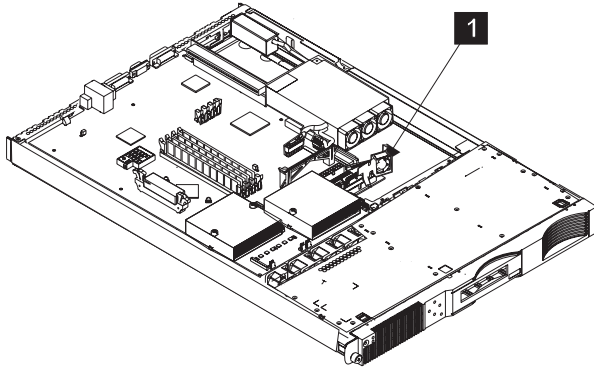

Figure 46. Removing a disk drive fan
5. Remove the entire fan assembly **1** by sliding the right-hand side of the disk drive fan forward. Then, pull the assembly away from the clip. See Figure 46 on page 176.